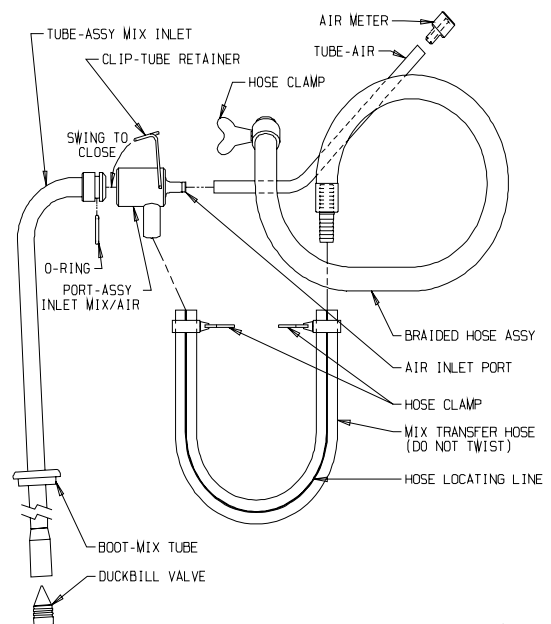

Figure 6-5 MTS Hose Assembly
12. Disassemble the MTS hose assemblies as shown in figure 6-5.